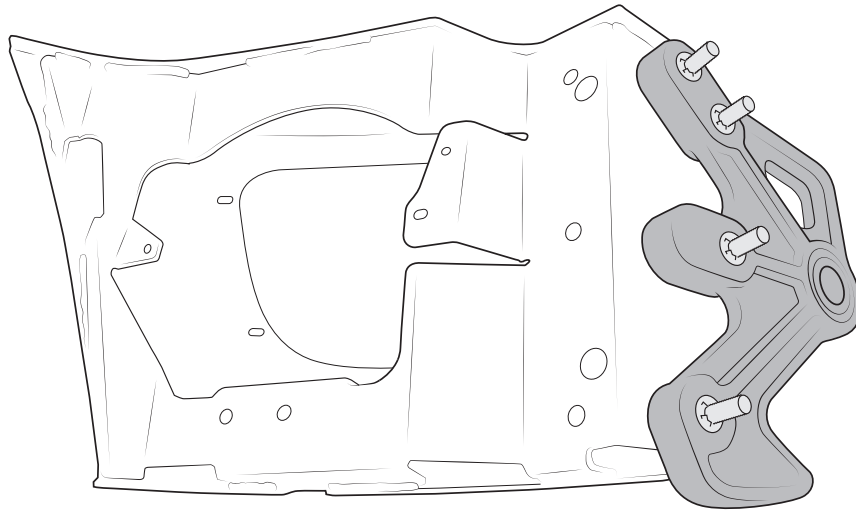

Figure 19
1. Assemble the tow loops and bumper corners with M12 x 60 carriage bolts and push nuts as shown (fig. 19). **NOTE: Start ALL of the bolts through the corner and tow loop before putting the push nuts on.**